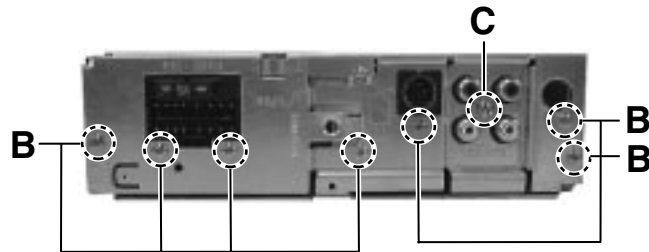

Fig. 5
■ **Removing the rear panel (See Fig.5)**